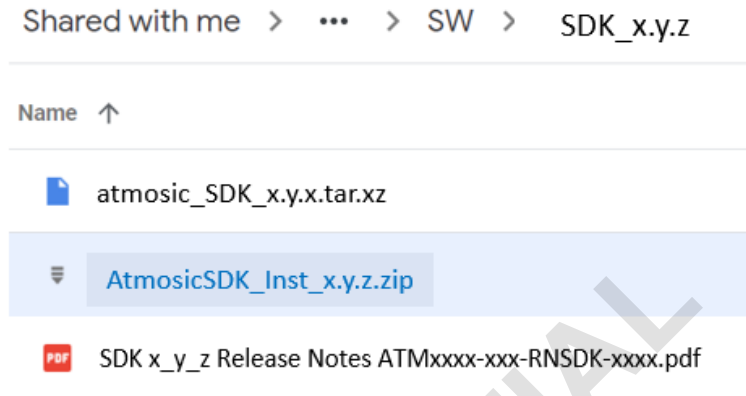

Figure 4 - SW Directory
- Figure 4 - SW Directory
A Windows 10 Installer zip file “AtmosicSDK_Inst_[version_number].zip” is in the ATM3_2X > SW folder. Download the zip file onto your desktop. See Figure 4.